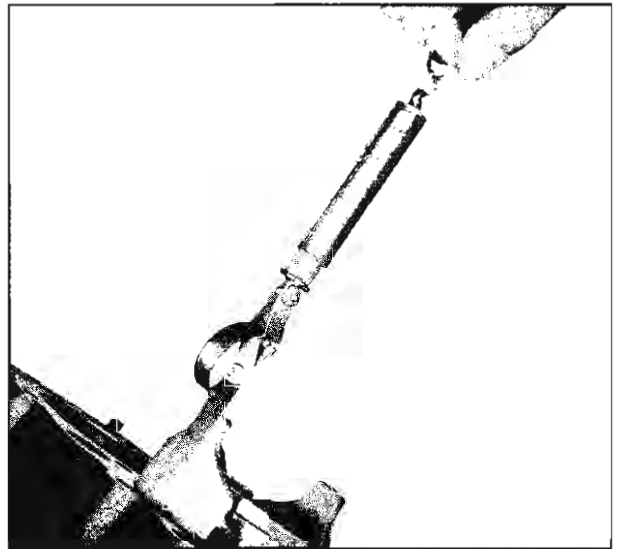

Fig. 90—Checking Piston Fit
- c. Pull the feeler gauge straight up and out, noting at the same time the scale reading, which should be between 4 and 6 pounds (fig. 90).